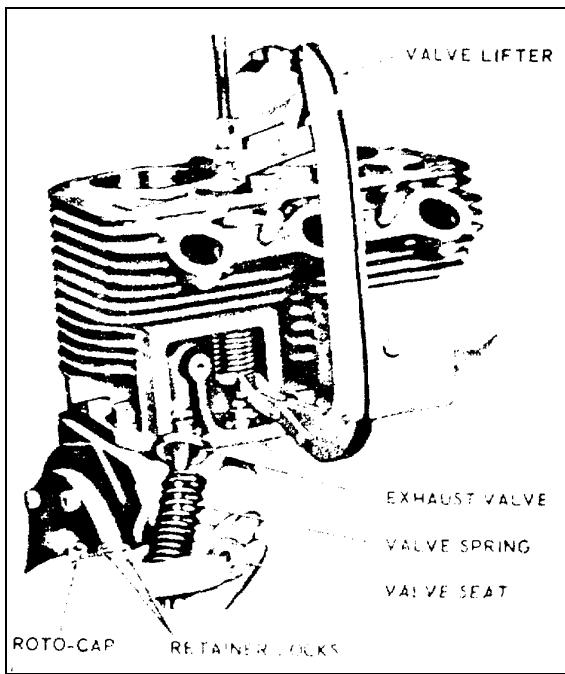
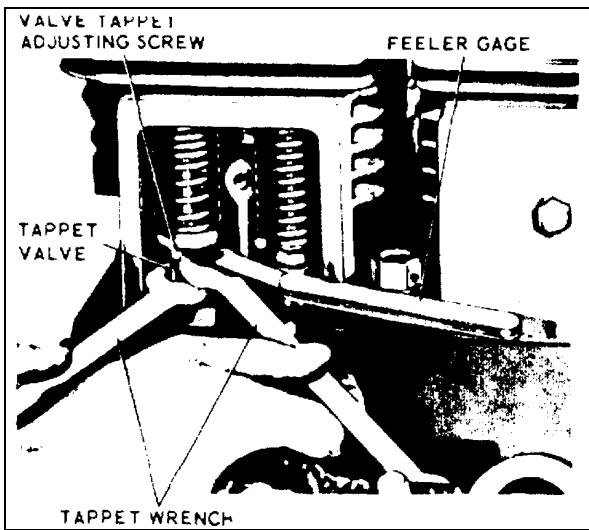

Figure 4-16. Removing Valves
Figure 4-20. Adjusting Tappets
(7) Remove valve tappet inspection plate and compress valve springs with a standard automotive type valve lifter as shown in figure 4-16. If cylinder block is still attached to engine, insert a rag in opening at bottom of valve chamber so roto-cap and valve spring seat retaining locks do not fall into crankcase. Remove roto-caps, valve spring seat retaining
(3) Install valve assembly (figure 4-16). Be sure to assemble roto-caps on end of valve stems. Adjust tappets (figure 4-20). With tappets in lowest positions, engine cold, the clearance should be: Inlet Valves 0.008 inch; Exhaust Valves 0.016 inch. Install valve tappet inspection plate.